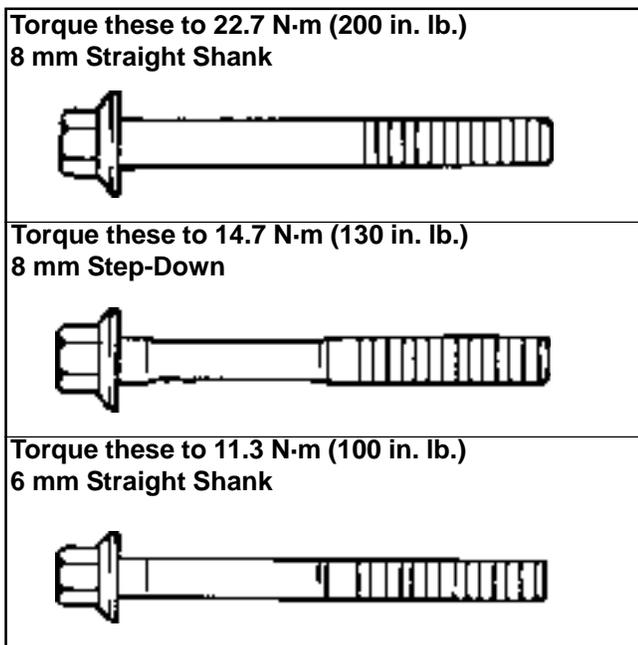

Figure 11-10. Connecting Rod Bolts.
- Three different types of connecting rod bolts have been used in production and each has a different torque value. See Figures 11-10 and 11-11.